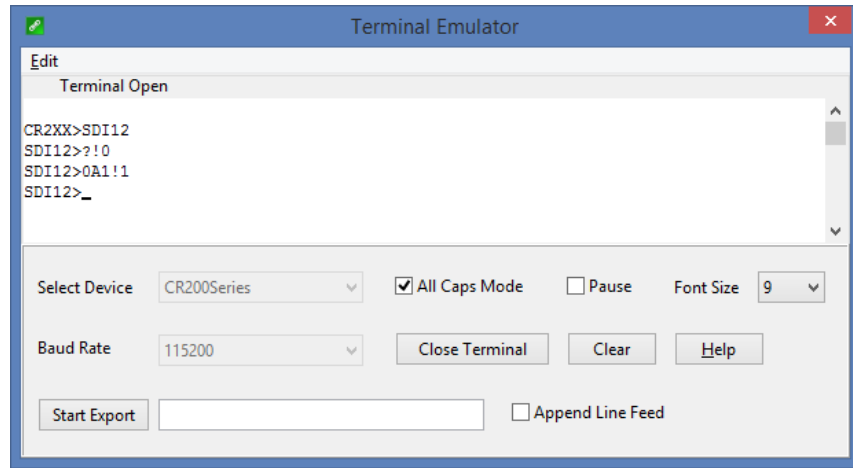

FIGURE D-1. CR200(X) example of using the SDI-12 transparent mode to change the SDI-12 address from 0 to 1.
D.2.1 CR200(X) Series Datalogger Example
6. To change the SDI-12 address, key in **aAb! <enter>**, where *a* is the current address from the above step and *b* is the new address (see FIGURE D-1). The CS215 will change its address and the datalogger will respond with the new address. To exit SDI-12 transparent mode select the **Close Terminal** button.